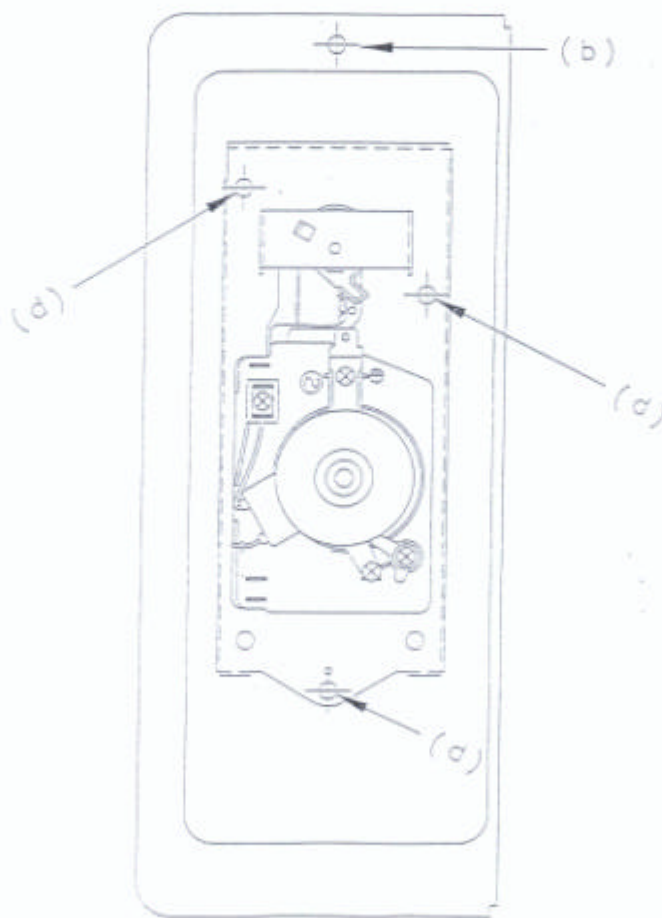

Fig 9.2
- b) Remove 1 screw holding the oven unit. (Fig. 9.2)
- d) Remove the timer by removing the 3 screws. (Fig. 9.2)